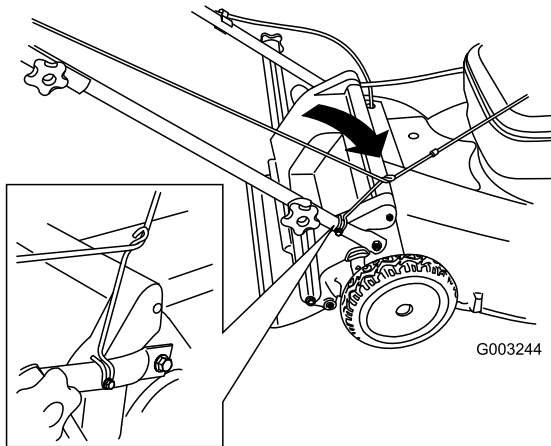

Figure 36
3. Route the starter rope around the lower rope guide (Figure 36).